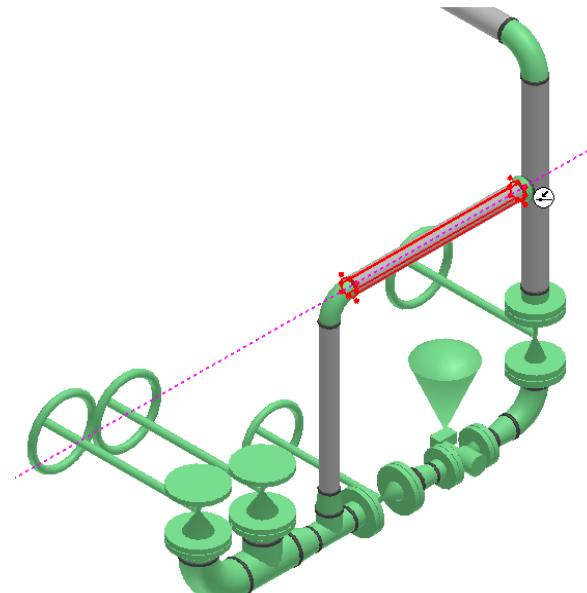

Figure 3. 101: End of the By Pass Line
62. An outline of the gate valve and the mating flange will appear in the graphic view. Key in **90 deg** in the **Angle** drop-down list on the **Insert Component** ribbon to rotate the gate valve so that the valve operator faces north, as shown in Figure 3. 102